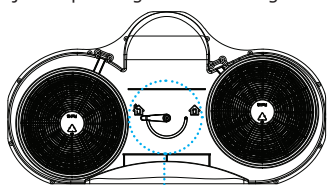

Fig. 1
1. Remove the aluminium grease filters (Fig. 6, on page 10) from the underside of the rangehood. Turn the switch in the centre of the motor housing to "External Outside Ducting" position (Fig. 1)